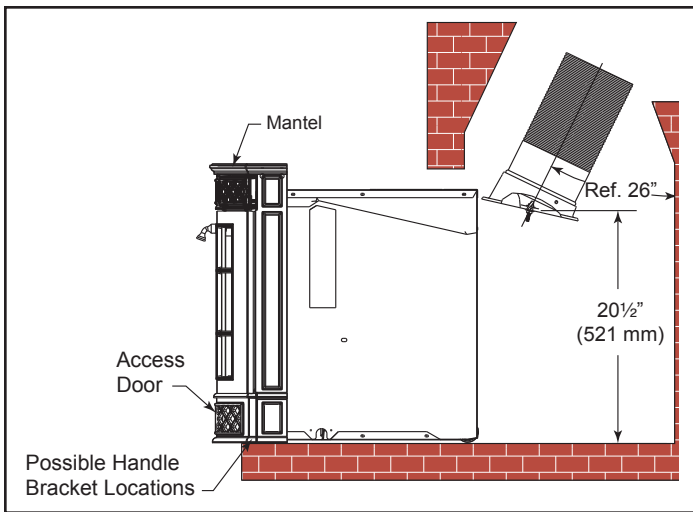

Figure 7 - Measured height from the finished hearth surface to the center bar of the flue collar.
- Install the connector pipe or liner so that the height measured from the finished hearth surface to the center bar of the flue collar is 20-1/2" (521 mm). (Figure 7) This will allow an easy connection once the stove is rolled into place.
10. Install the supplied handle storage bracket by simply sliding the flat end under the right or left side of the stove. (Figure 7)